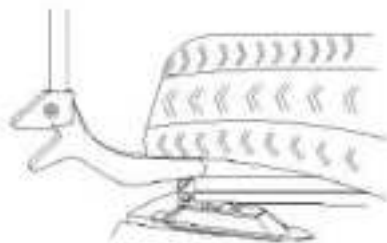
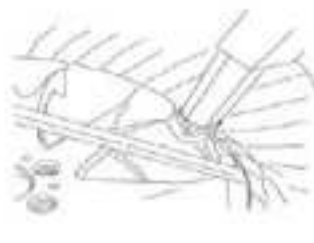

Fig 24
Fig 25
5. Rise the tyre into the center of rim's channel with the tyre pressing head (upper) (shown as Fig 24). Insert the lifting lever into the tyre near the mounting head, lift the tyre and turn the turntable to demount the lower bead. (show as Fig 25)